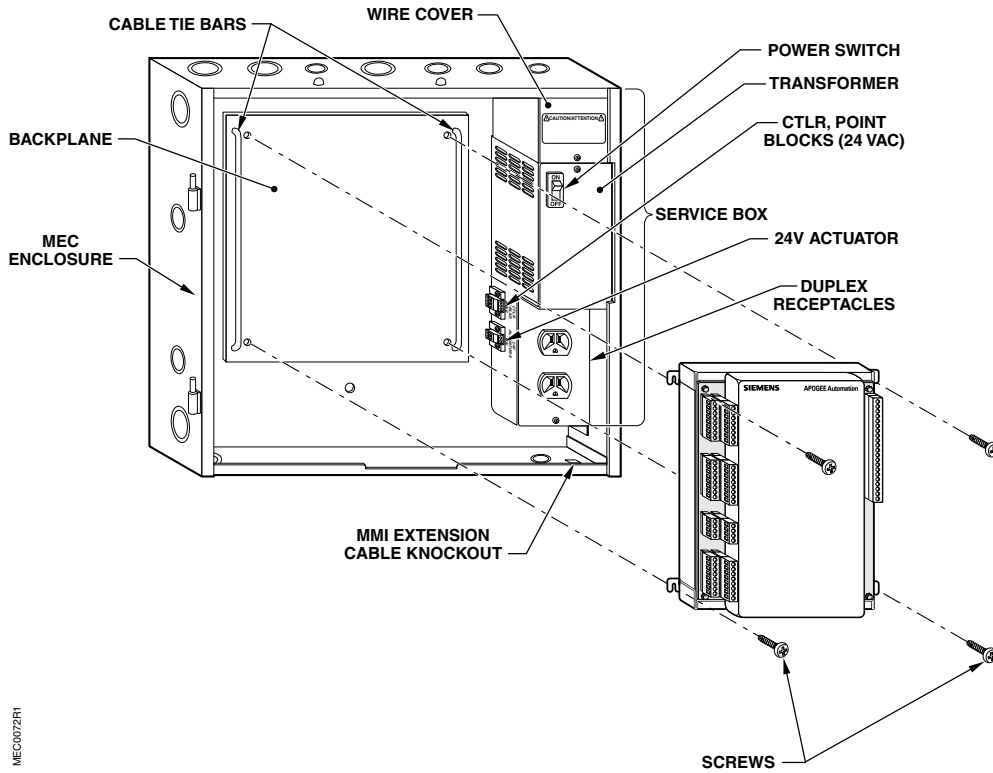

Figure 1. Mounting the MEC Inside an Enclosure (MEC Service Box shown).
UL Listings require NEC Class I and Class II wiring be kept separate from each other. Use separate conduit and cable tie bars inside the enclosure (see Figure 1) to separate Class I DO wires from all other Class II wiring.
1. Carefully align the MEC on the perforated backplane of the enclosure (Figure 1).